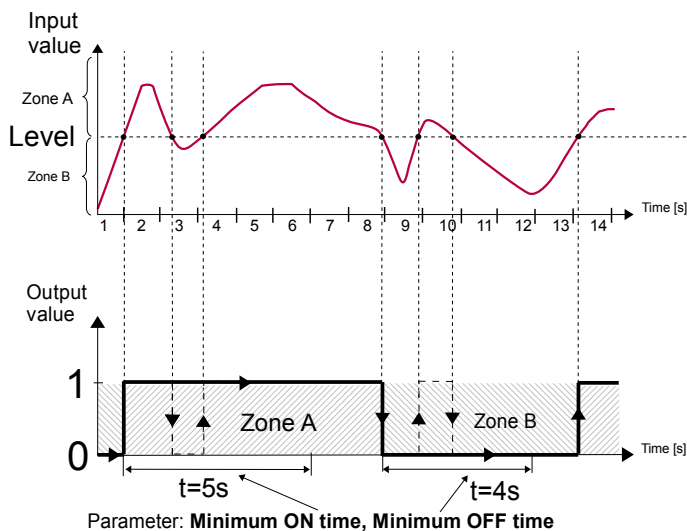

Fig. 7.72. Principle of relay output operation for sample timing settings: **Min. ON time=5 sec., Min. OFF time=4 sec.**
- **Minimum ON time** - the minimum duration of a high state (if the output switches to high state the low state will occur after the **Minimum ON time**), see Fig. 7.72,
- **Minimum OFF time** - the minimum duration of a low state (if the output switches to low state the high state will occur after the **Minimum OFF time**), see Fig. 7.72,